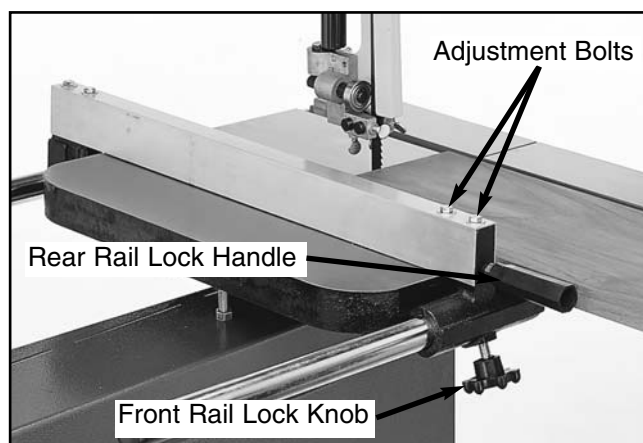

Figure 26. Fence adjustment and controls.
Align the fence to the miter slot by first loosening the (2) bolts nearest the operator. **See Figure 26.** Lock the front rail lock knob and measure between the front edge of the fence and the front edge of the miter slot. Compare this to a measurement taken at the back of the fence and the miter slot. Swing the fence to correct for any difference and measure again. When you are satisfied that both of the front and back measurements are equal, carefully tighten the two bolts at the top of the fence.